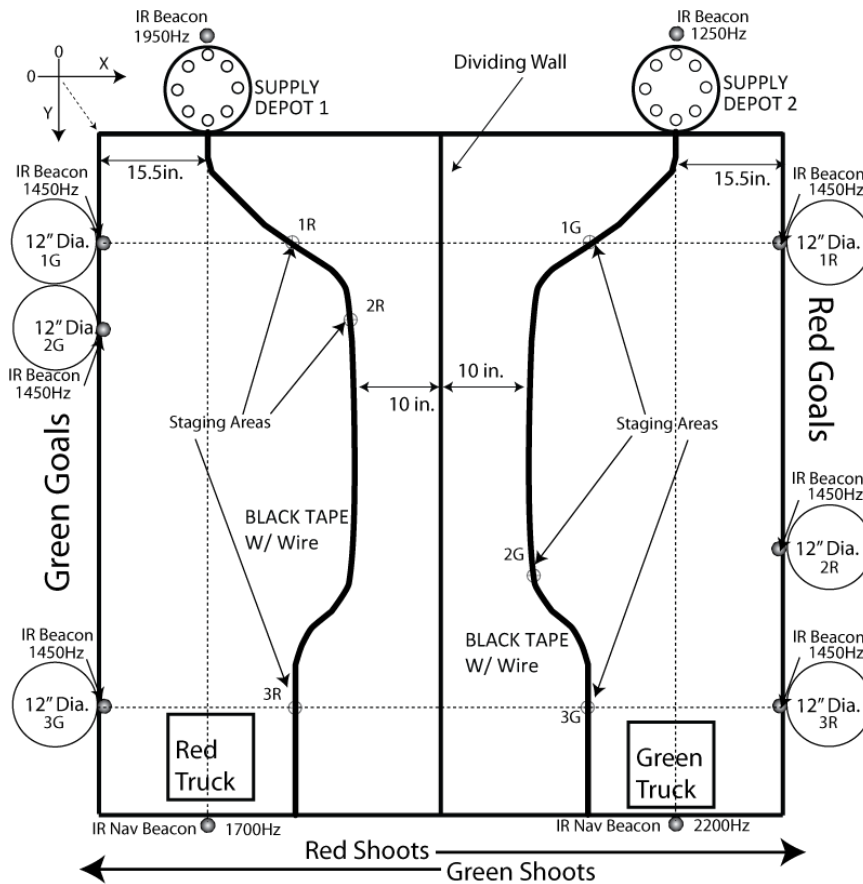

Fig. 1 The Playing Field
- Modulated IR beacons will be mounted above each of the construction sites, the reload stations, and navigation stations, as shown in Fig. 1. The emitters of these beacons will be placed 12" above the surface of the campus.
- The construction sites are 5 gal Home Depot paint buckets located as shown in Fig. 1.
- A truck route leading through all of the staging areas will be marked by a 1" black tape line, as shown in Fig. 1. Beneath the black tape will be a wire carrying a 100mA current modulated at 20kHz.